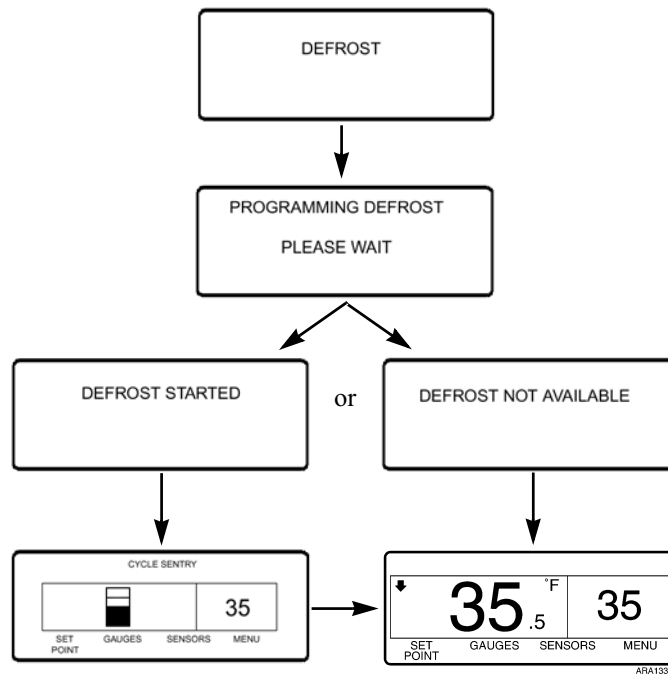

Figure 51: Initiating Manual Defrost Screen Sequence
2. The “Defrost” Screen briefly appears. See Figure 51.
3. The “Programming Defrost” Screen briefly appears. See Figure 51.
4. The “Defrost Started” Screen briefly appears. See Figure 51.
5. A modified Standard Display appears. The bar indicator will fill in showing time remaining to complete the Defrost cycle. The bar indicator in the figure shows that the Defrost cycle is 50% complete. When the Defrost cycle is complete the display returns to the Standard Display. See Figure 51.
The unit may be prevented from going into a Manual Defrost. For example, this can occur if the coil temperature is more than 45 F (7 C). If defrost is not available, the “Defrost Not Available” message will appear and the display will return to the Standard Display. See Figure 51.